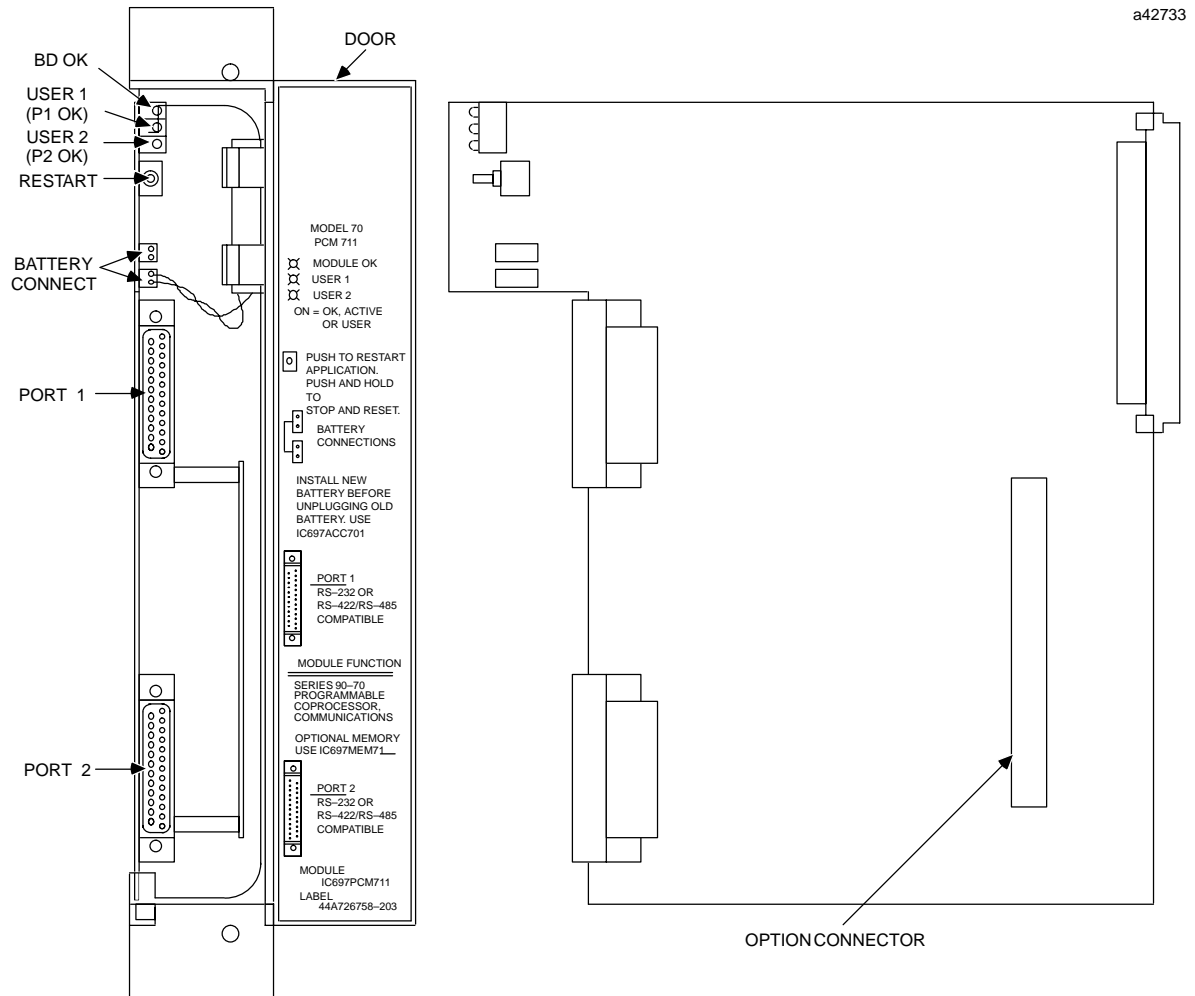

Figure 1-1. Series 90-70 PCM
A lithium battery is installed, as shown in figures 1-1 and 1-2. This battery maintains user memory when power is removed. Before the battery reaches the end of its useful life, a low battery fault is reported in the PLC fault table. See tables 1-1 and 1-3 for replacement battery catalog numbers.
1. Open the front cover. Refer to figures 1-1 and 1-2 for the location of the battery on the module. (For a new PCM, the battery is not connected.)